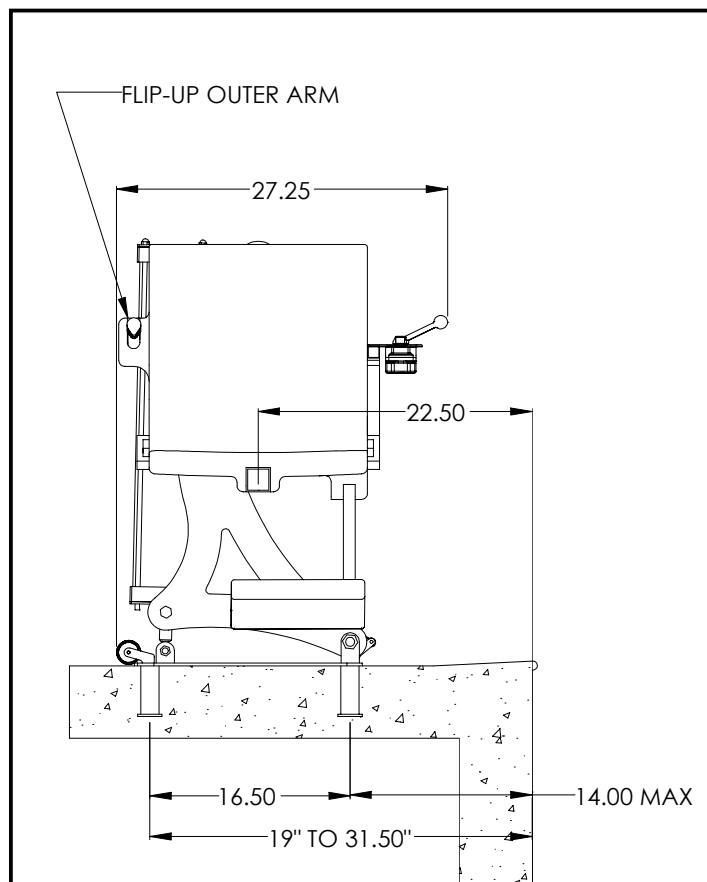

FIGURE 1
2. The setback for the front anchor bolt must be no more than 14 inches from the pool wall. **FIGURE 1**